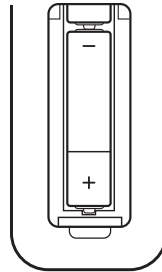

Fig 6.
2. Insert two AAA/ LR3 battery taking care that the battery direction matches the printed directions inside the battery compartment. (**Fig 6**)